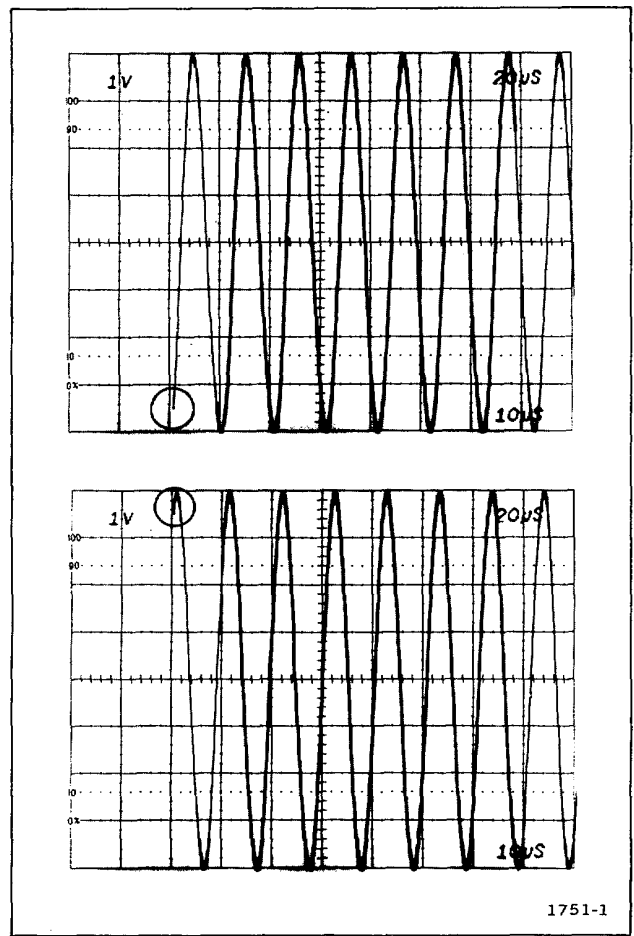

Fig. 5-7. Main Triggering level range (Circle denotes triggering limits).
c. Check that all levels of the positive slope may be selected for the sweep starting point as the MAIN TRIGGERING LEVEL control is rotated throughout its range, and that triggering occurs at least 3.5 divisions above and below the center horizontal graticule line. See Fig. 5-7 for reference.